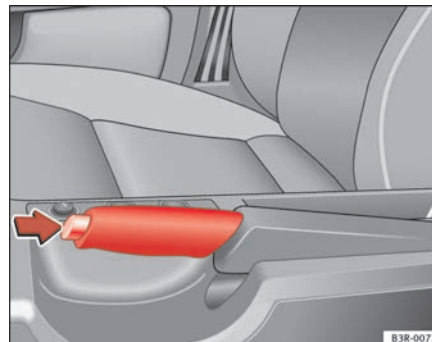

Fig. 141 Detail of the centre console: Handbrake applied
- Pull the lever up slightly and *at the same time* press in the release button ⇒ **fig. 141 -arrow-**.